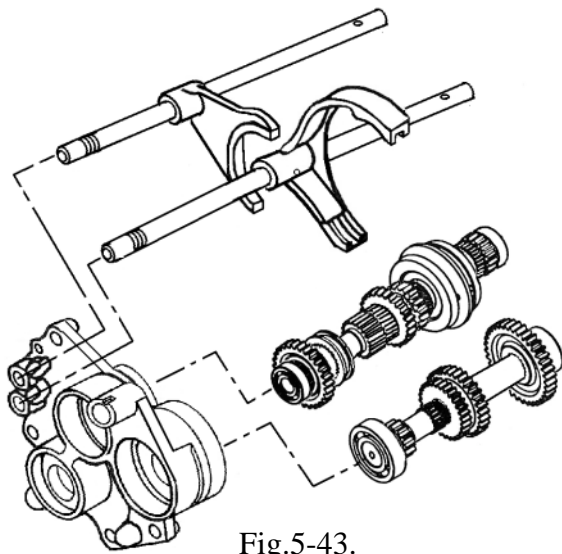

Fig.5-43.
- d.Remove the shift stays from the shift metal and remove the gears assemblies as shown Fig.5-43.